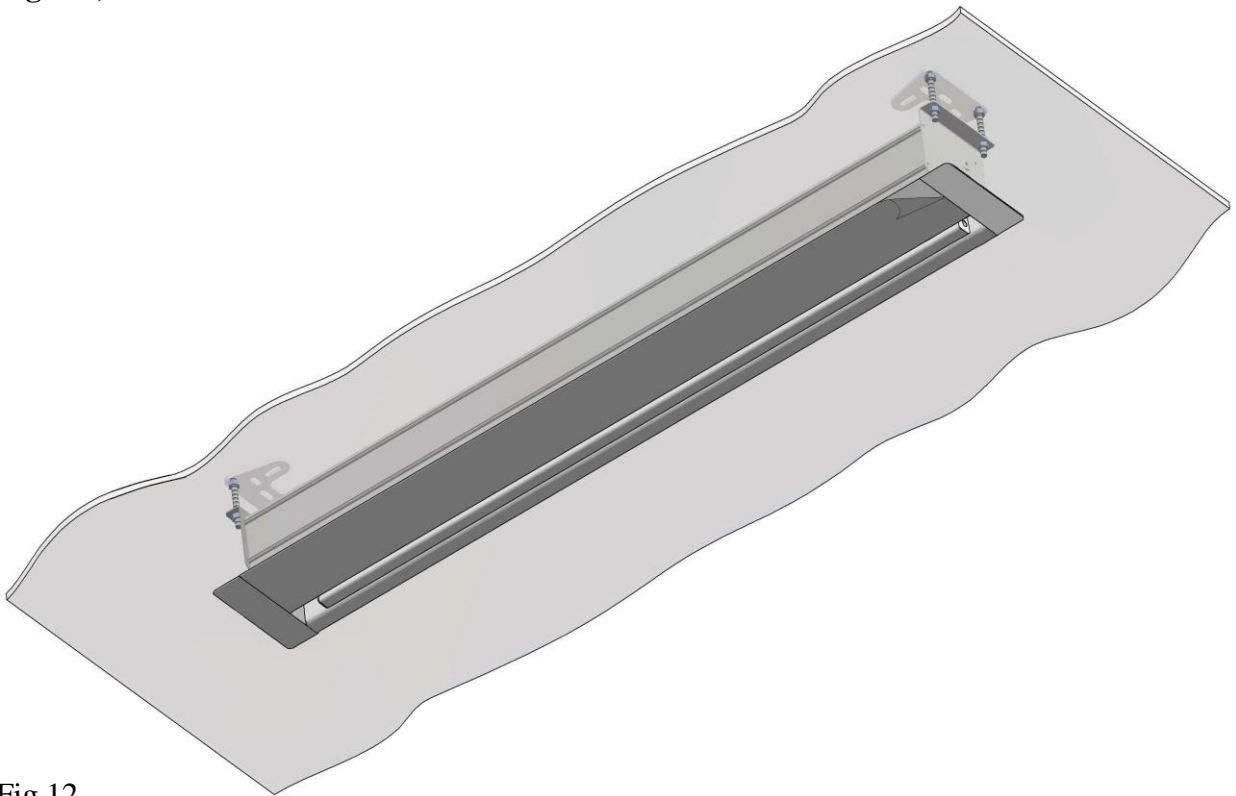
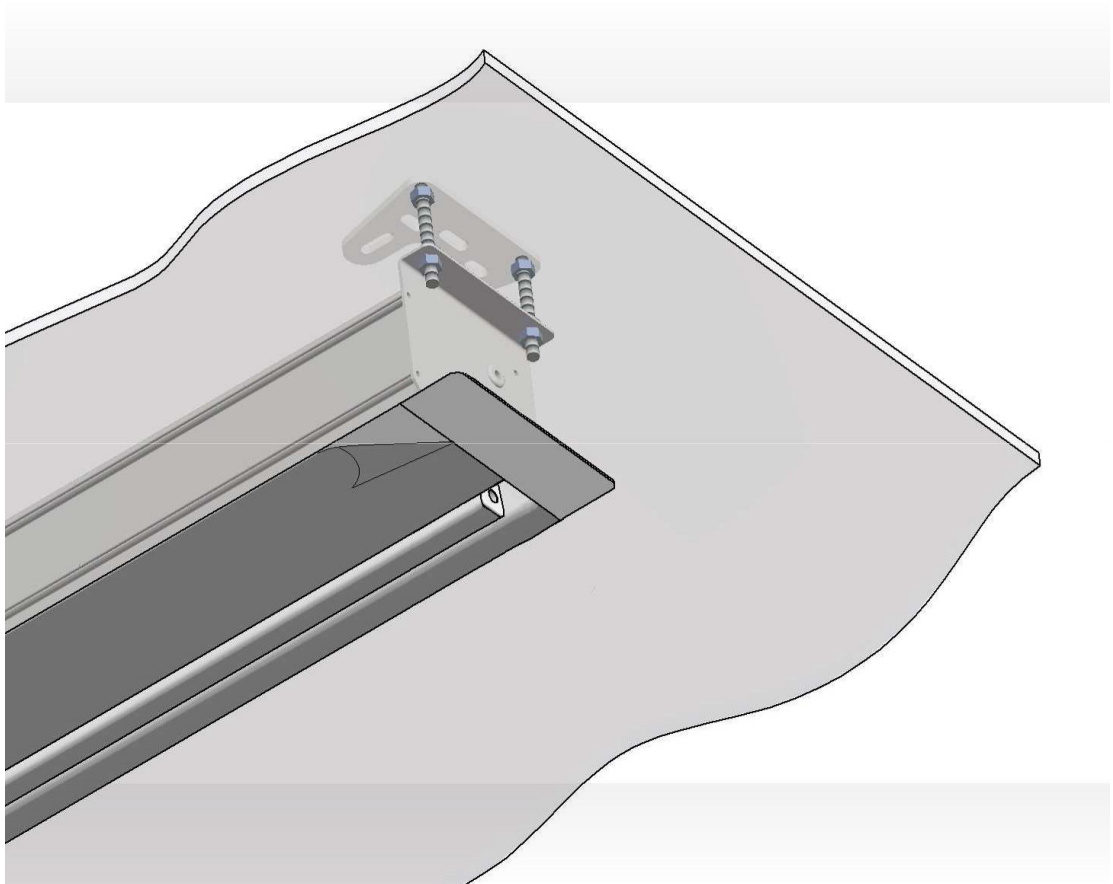

Fig.12
Fig.12a
13. After completing the screen installation, peel off the foil protecting the cassette from damage (**Fig.12, Fig.12a**).